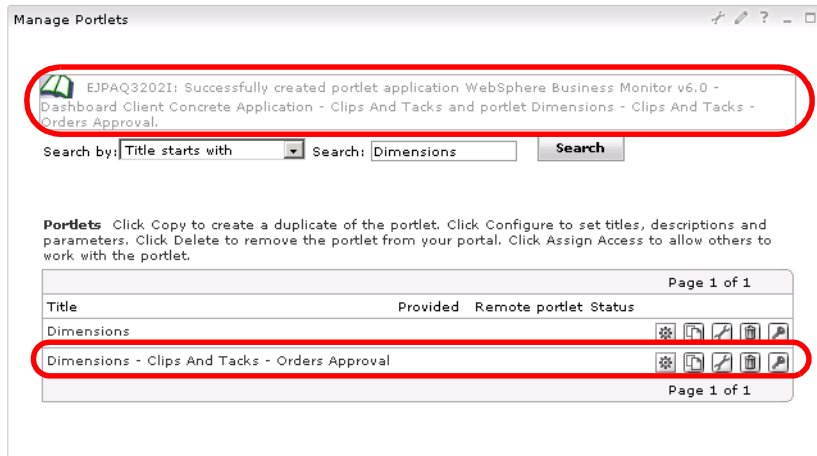

Figure 13-16 Copying a portlet
- ▶ Click *OK* and wait for the confirmation message (Figure 13-16).